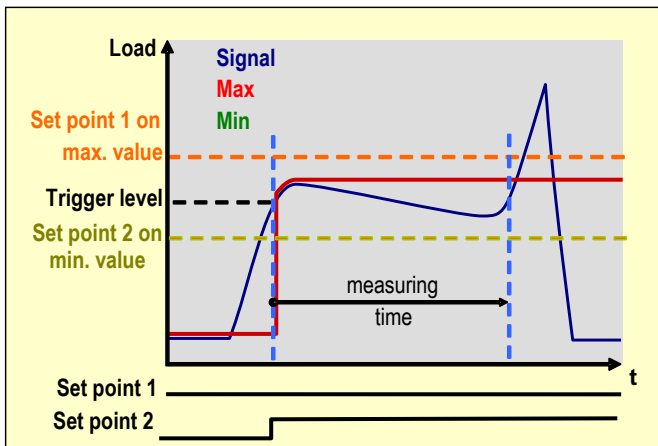

Fig. 12
- through a 'trigger level' and 'measuring time' (Fig. 12)
Outputs can be assigned to the set-point function (Fig. 12). Set-points can be assigned with either Max or Min or Peak-to-peak values or to the gross or net measurement.